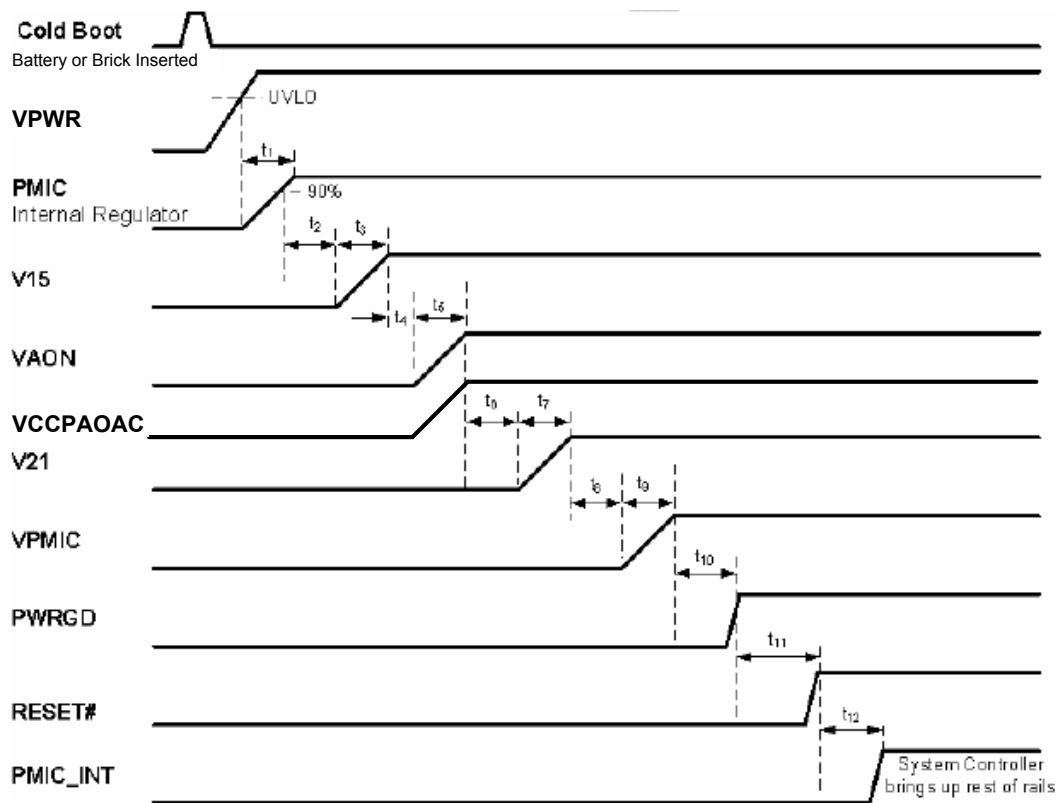

Figure 19. 900844 Initial Power Up Sequence
Figure 19 shows the 900844 initial power up sequence:
4. The 900844 turns on a minimal set of voltage rails as outlined in Figure 19